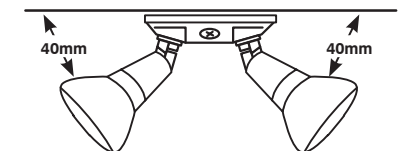

Figure 7.
3. Ensure that globe is positioned 40mm or more from the mounting surface as shown in (Fig. 7). The globe becomes very hot and must not be touching the surface.